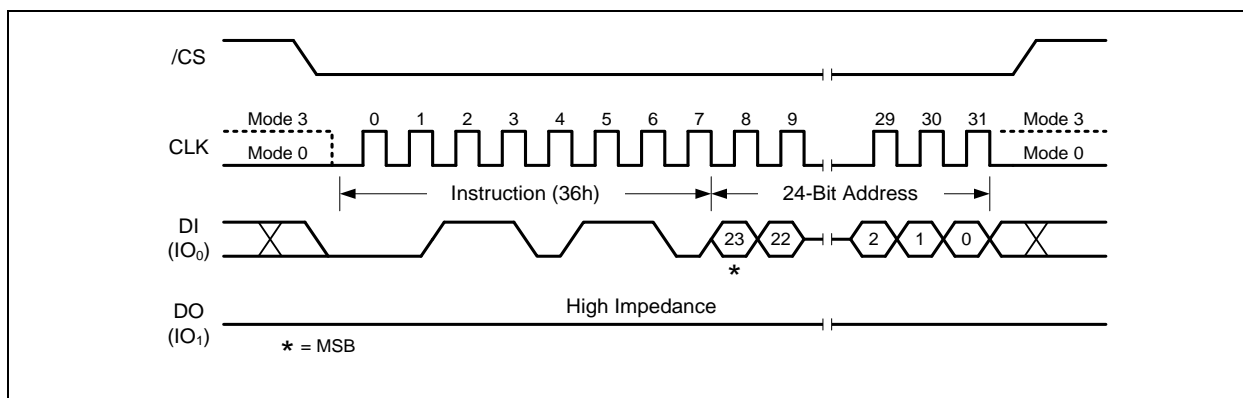

Figure 35. Individual Block/Sector Lock Instruction
To lock a specific block or sector as illustrated in Figure 35, an Individual Block/Sector Lock command must be issued by driving /CS low, shifting the instruction code "36h" into the Data Input (DI) pin on the rising edge of CLK, followed by a 24-bit address and then driving /CS high. A Write Enable instruction must be executed before the device will accept the Individual Block/Sector Lock Instruction (Status Register bit WEL= 1).